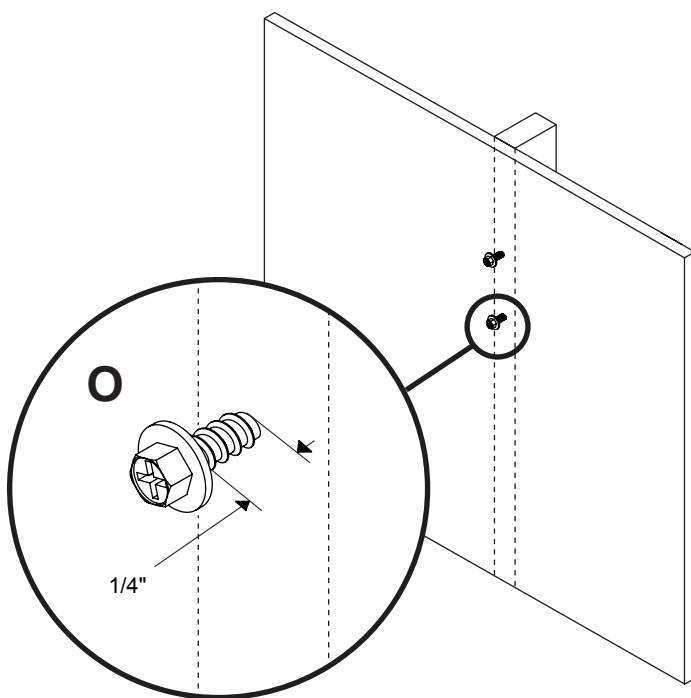
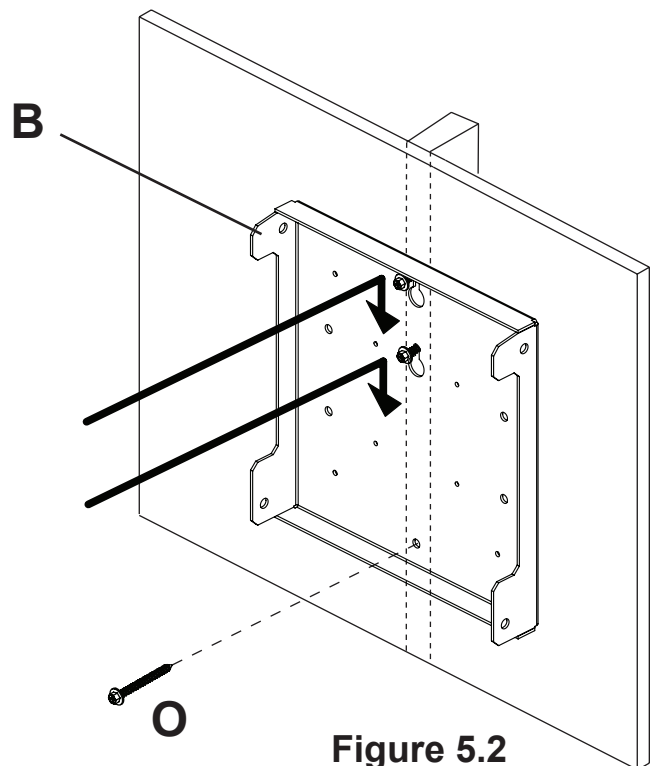

Figure 5.1
Figure 5.2
- 5** Use a stud finder to locate the edges of the stud. Use of an edge-to-edge stud finder is highly recommended. Based on their edges, draw a vertical line down each stud center. Place wall plate (**B**) on wall as a template. Level, and mark the center of the three mounting holes. Make sure that the mounting holes are on the stud centerlines. Drill three 5/32" (4 mm) dia. holes 2.5" (64 mm) deep. Fasten two #14 x 2.5" wood screws (**O**) leaving 1/4" of thread exposed as shown in Figure 5.1. Hook wall plate (**A**) onto exposed #14 x 2.5" wood screws (**O**). Secure using one #14 x 2.5" wood screws (**O**) as shown in figure 5.2